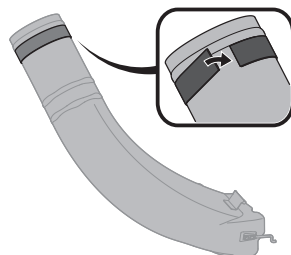

Figure 25
7. Apply the other wide adhesive rubber strip (735-05020) onto the upper end of the discharge chute elbow. Place the adhesive strip up against the ridge in the upper portion of the discharge chute elbow, as detailed in the inset of Figure 25.